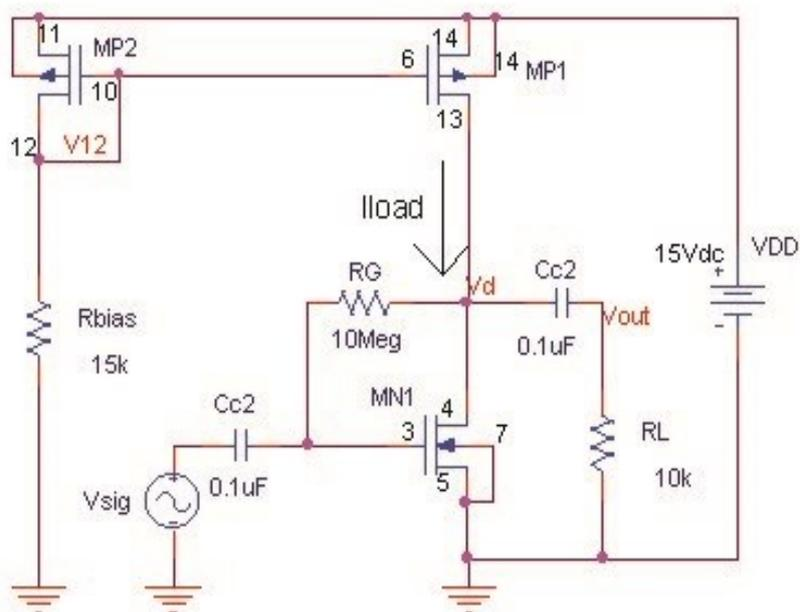

Figure 7: Common-Source amplifier with active load
By replacing the current source by the current mirror, we obtain the complete amplifier with active load as shown in Figure 7. We have also added a load resistor R_L and a coupling capacitor C_{C2} .
a. Build the circuit of Figure 7. For now do not include the load resistor R_L and a coupling capacitor C_{C2} . The pins of the transistor of the CD4007 array are given in the schematic. Use short jumpers on your protoboard to connect the pins of the transistors.